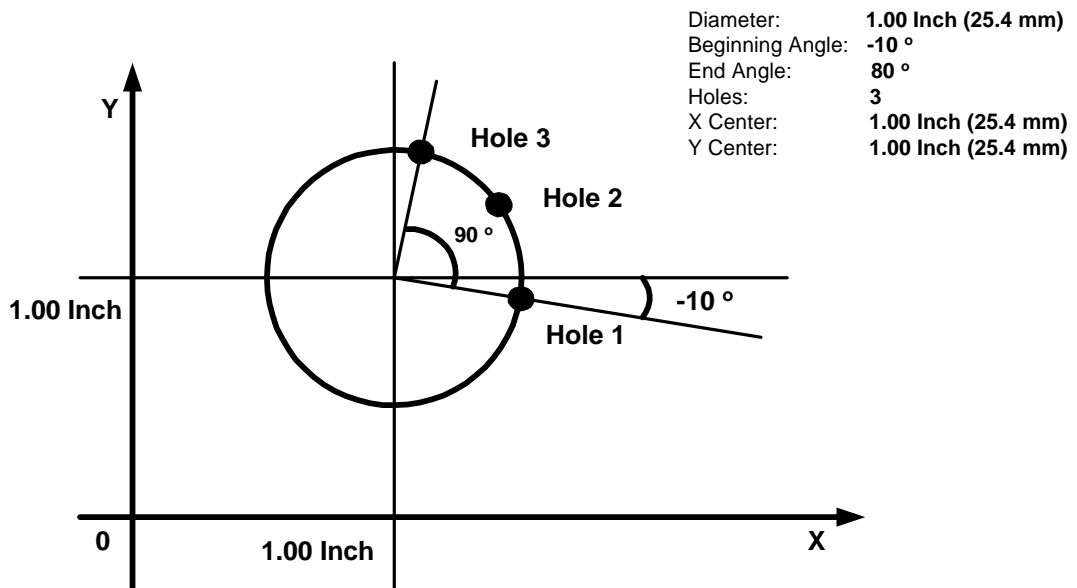

Figure 2: Partial Bolt-Hole Pattern
- Partial Pattern In a partial pattern, the holes do not cover the entire circumference of the circle. Instead they form an arc, called a partial pattern. (See Figure 2)